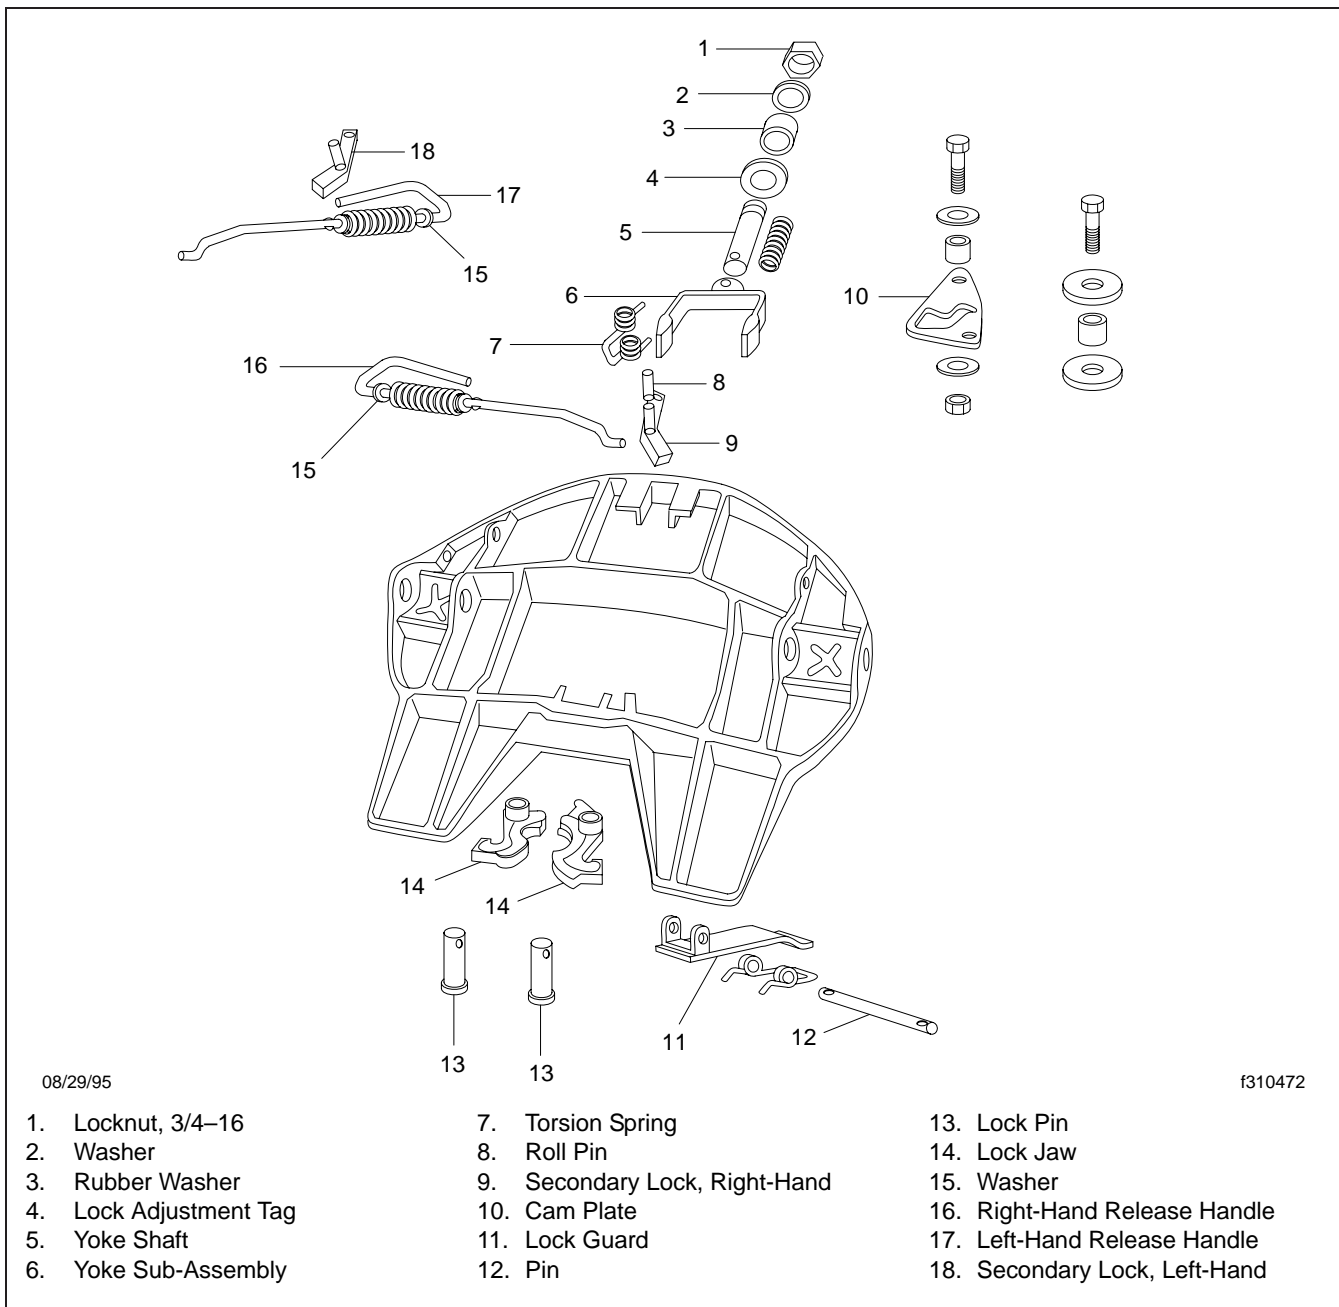

Fig 2, Holland Fifth Wheel
7. Check the condition of the X-pattern cast into the underside of the fifth wheel top plate. See **Fig. 2**. The fifth wheel top plate must be removed to check the X-pattern.